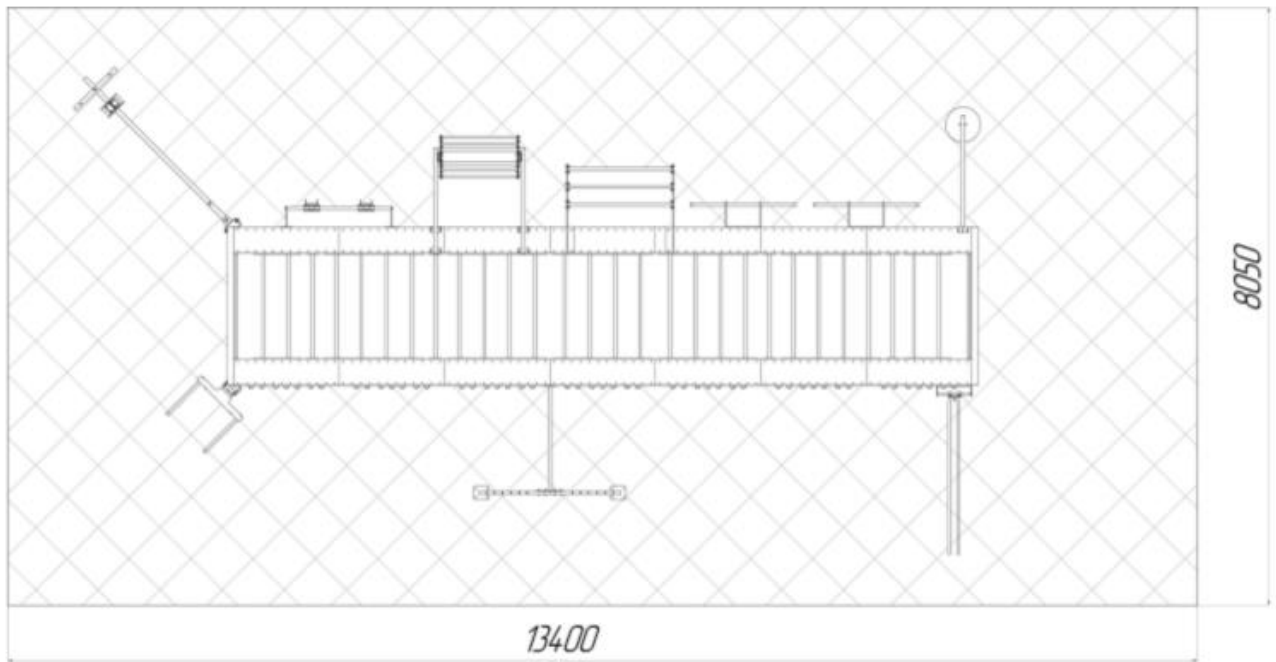

Fig.7
- 3.14 Put shock absorbing material on the surface under the assembled complex (not included in delivery). Protrusion of the items position 2 on outer sides must be at least 2500 mm. Total protection cover on the plan and safety zones are 13400 x 8050 mm (see fig.7). Other types of cover material and foundation shall conform to EN 16630:2015.